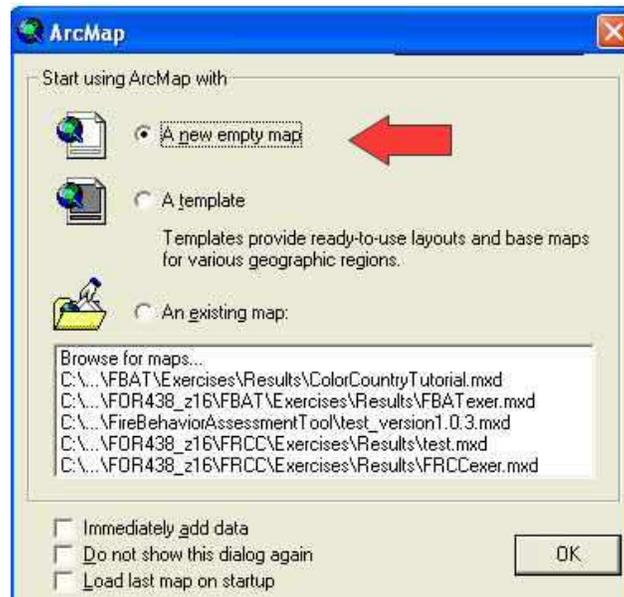

Figure 7-5. Creating a new project.
- Start ArcMap and select **A new empty map** as shown in Figure 7-5: